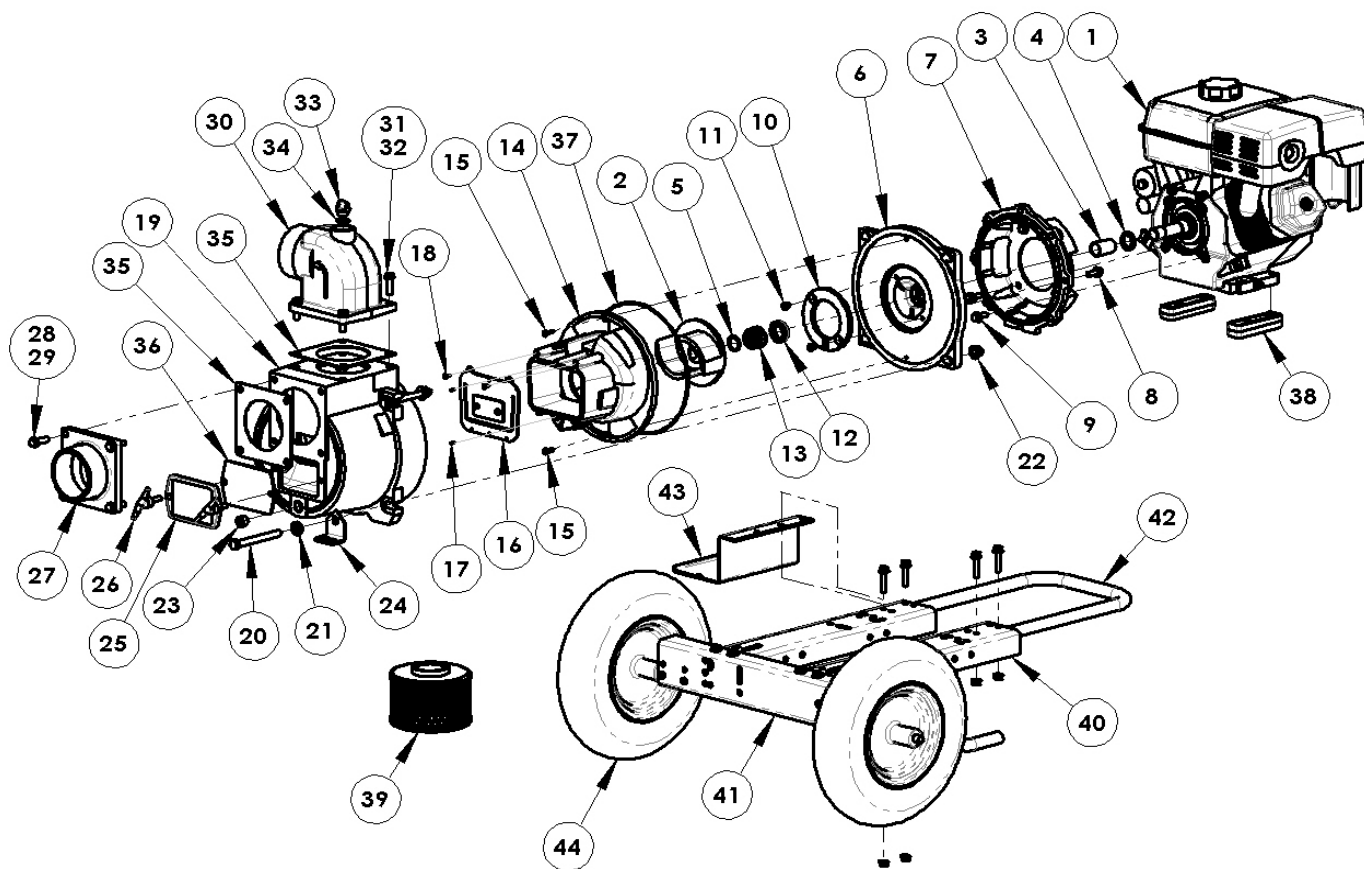

Figure 2 - Repair Parts Illustrations
(Refer to Figure 2)
2. Stand pump carefully on pump end. Reposition handle (Ref. No. 42) (as shown in Figure 2) facing outwards by removing and replacing existing handle fasteners.
**NOTE:** When the clearance between the impeller and the volute exceeds 1/16" at the face of the impeller or 1/8" on the outside diameter of the impeller, it may be necessary to take corrective action. The increased clearance can cause lengthened priming times and reduced pumping capacity. If both the priming and capacity of your unit are satisfactory for your application, it is recommended that no corrective maintenance be performed regardless of what clearances on your unit may have developed, since the increased clearances in themselves are not generally harmful to your pump. Normally, new pump clearances can be restored by simply shimming behind the impeller. (Add shim washers, Ref. No. 5). If the impeller is badly worn it is recommended that the impeller be replaced. This is usually all that is required since only on unusually abrasive services does the cast iron wear plate show deterioration. Occasionally a stone or hard object might get caught in the impeller and cause damage to the volute/cut water. In these cases, follow the instructions below for replacement and refer to Figure 2.